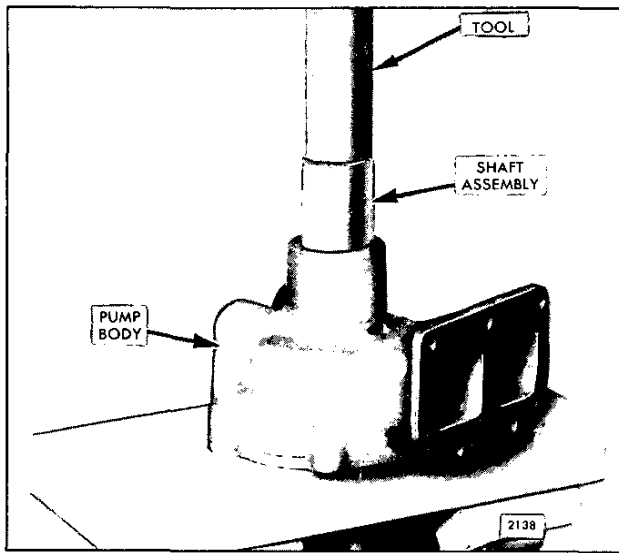

Fig. 9 – Pressing Shaft Assembly into Water Pump
1. Use installer J 1930 to apply pressure to the outer race of the bearing (Fig. 9) and press the shaft and bearing assembly into the pump body until the outer race of the bearing is flush with the outer face of the body.